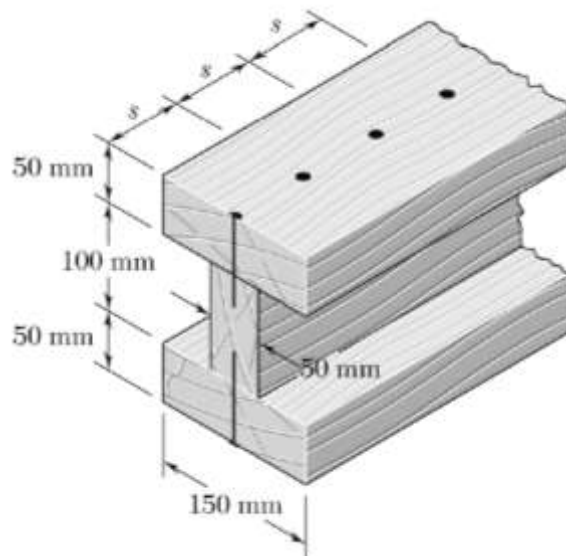

Figure Q3b
- (b) As shown in Figure Q3b, three rectangular boards (each has a thickness of 50 mm) are joined together using nails to form a beam which is subjected to a vertical shear. Given the allowable shearing force in each nail is 600 N and the spacing ' s ' between the nails is 75 mm, determine the allowable shear stress.